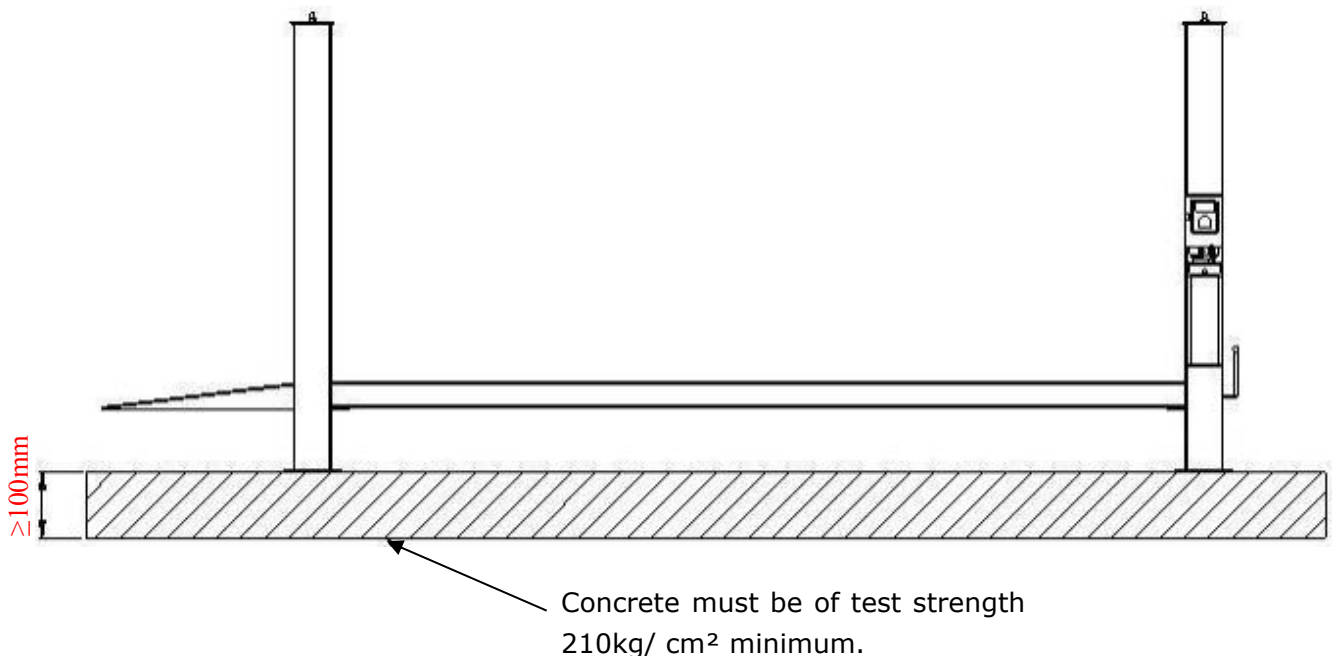

Fig.4
D. SPECIFICATIONS OF CONCRETE (See Fig. 4)